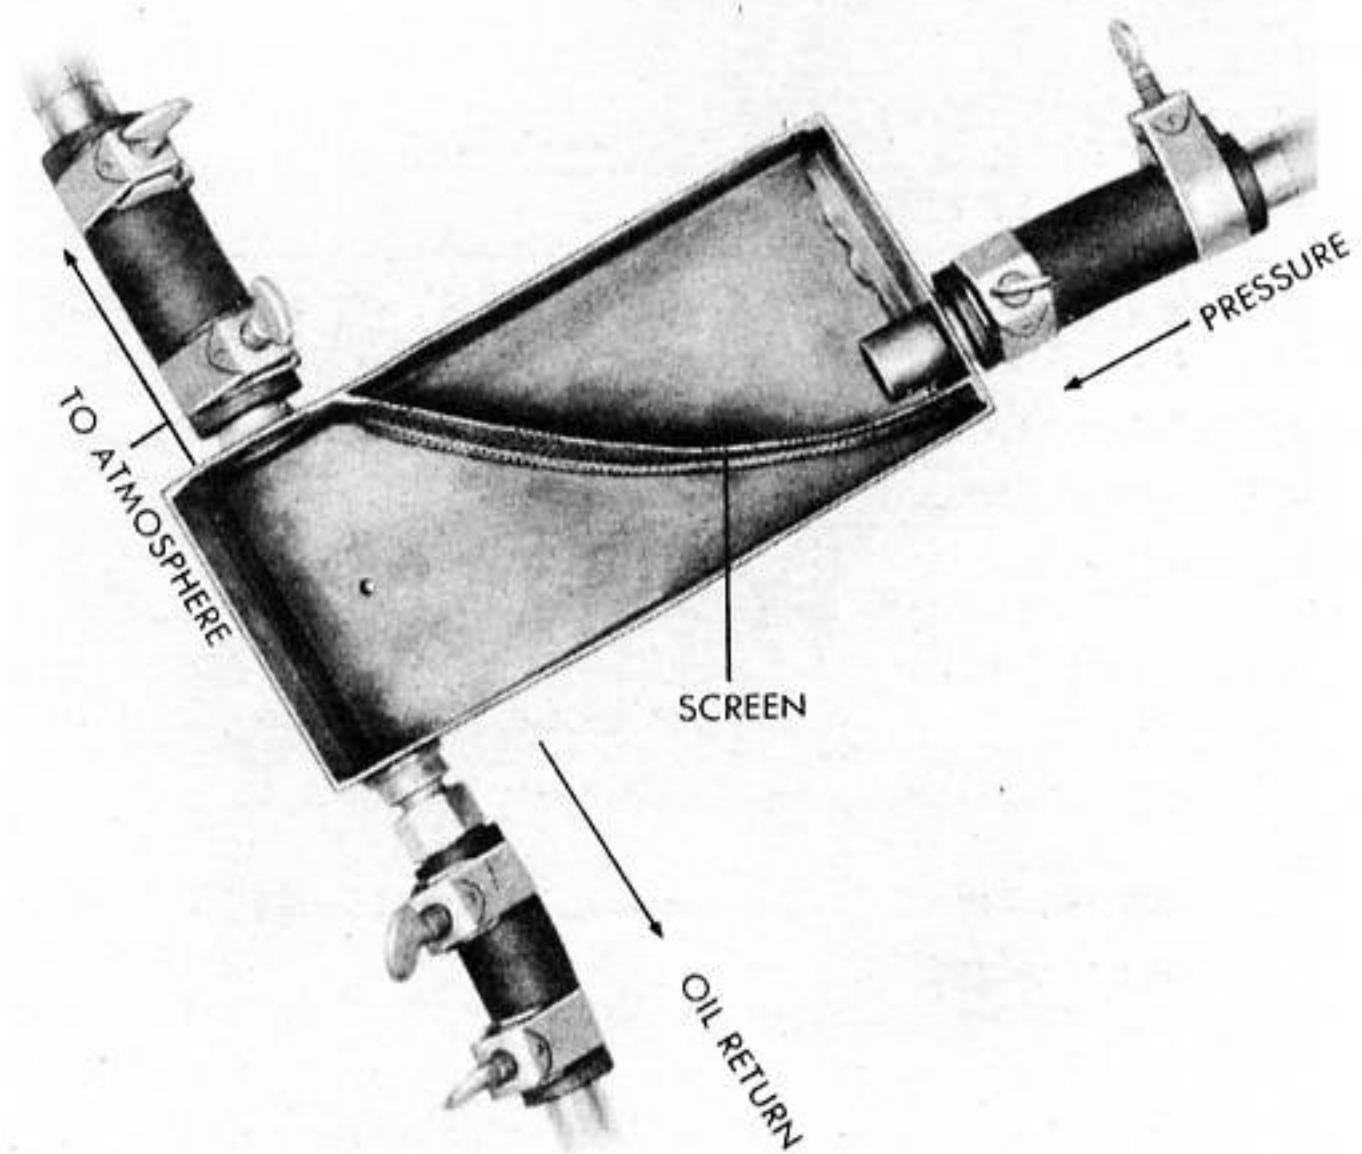

Figure 163 - OIL SEPARATOR - CUTAWAY VIEW
(7) OIL SEPARATOR. (See figure 163.) - An oil separator is mounted forward of the fire wall of each engine. The separator is of the centrifugal type through which the exhaust air returning under pressure from the vacuum pump is freed of any oil particles. In the separator, pressure is vented to the atmosphere and the oil returned to the supply.